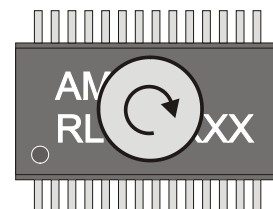

Fig. 3: CW rotation of the magnet
The arrow in Figure 3 shows clockwise (CW) rotation of the magnet. The picture is a top view of the magnet placed above the AM256. CCW is counter clockwise rotation.